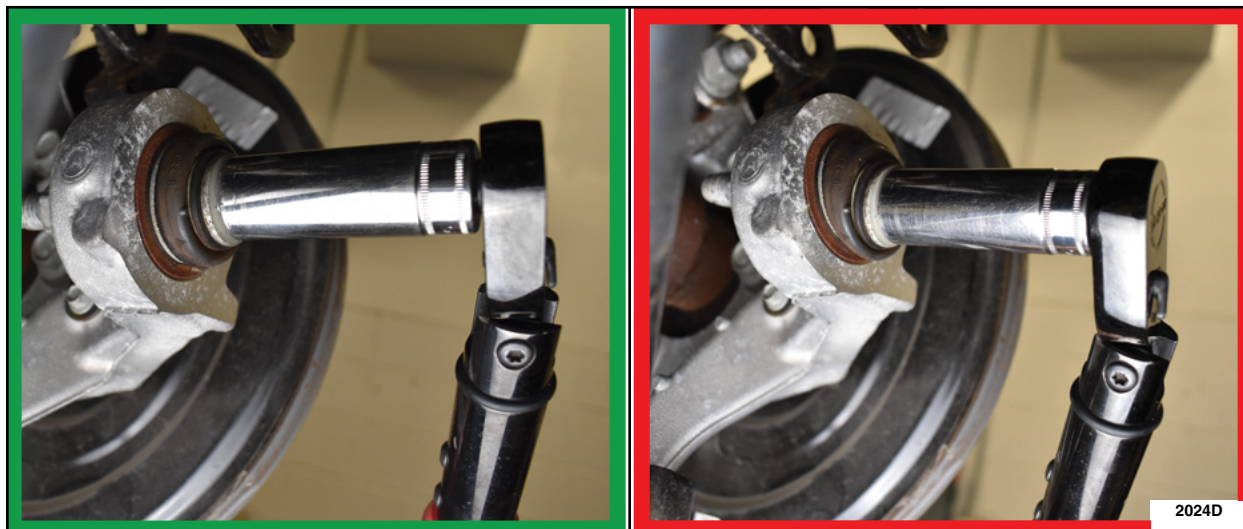

FIGURE 5
7. Set a torque wrench to 11 lb.ft (15 Nm). Apply torque to the toe link to wheel knuckle bolt while keeping the ball joint straight. See Figure 5. Did the ball joint rotate before the torque wrench actuated?